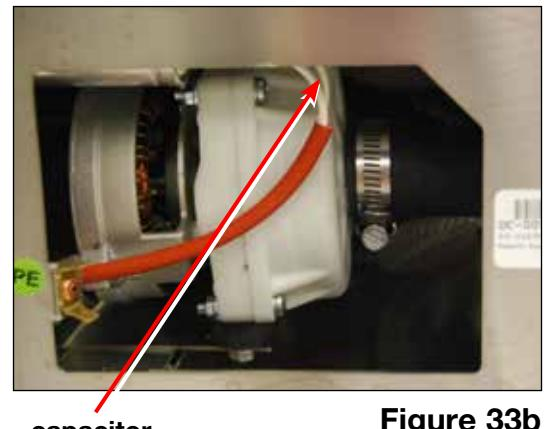

Figure 33b
9. From left side of the unit, disconnect the capacitor wires. (Figure 33b)